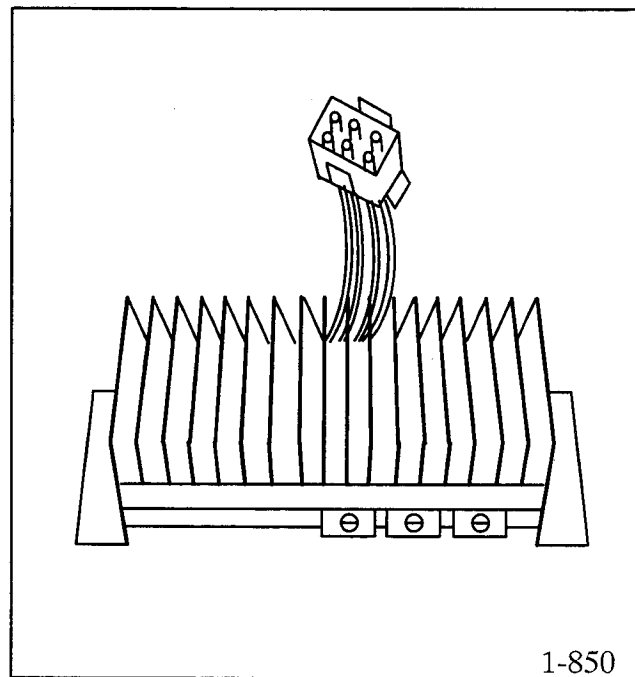

Figure 7-4. PowerBoost™ III E Voltage Regulator
1. Disconnect all leads from voltage regulator. See Figure 7-4.